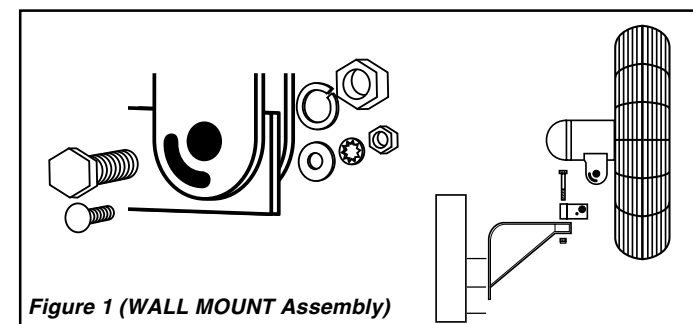

Figure 1 (WALL MOUNT Assembly)
- Insert 7/16-14 x 3-1/2" Bolt through Flag Bracket, Wall/Ceiling Bracket and into the 7/16-14 Lock Nut as shown in the appropriate illustration. Tighten Nut finger tight. (Figure 1 or 2) The Bracket has two Holes; be sure Smaller Hole is as shown in the illustration.